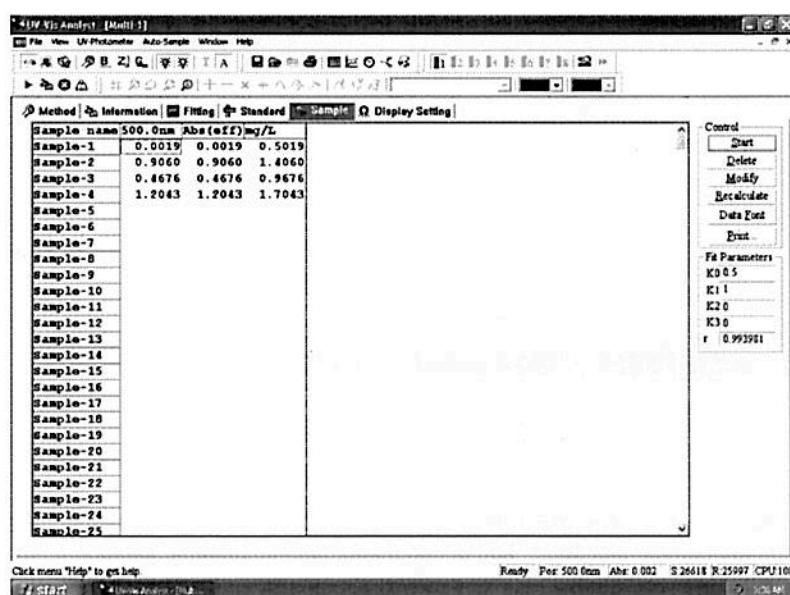

Fig. 4-9
8. Repeat steps 4-7 to measure remaining samples (Fig. 4-9).